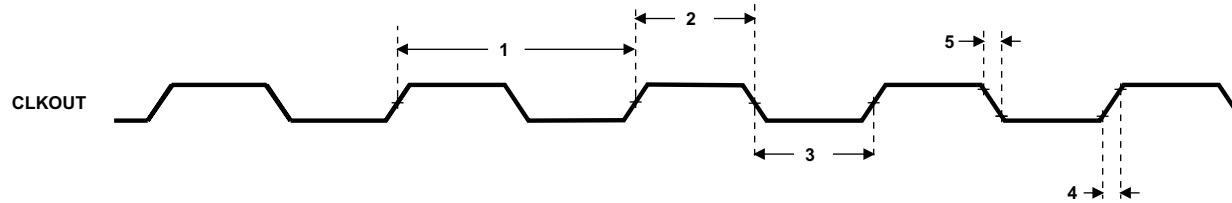

Figure 5-12. CLKOUT Timing
Table 5-9. Switching Characteristics Over Recommended Operating Conditions for CLKOUT^{(1) (2)} (see Figure 5-12)